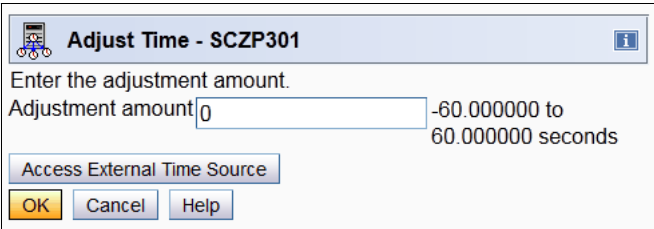

Figure 6-110 Adjust Time window - 0 entered to remove previous manual time adjustment
3. On the Adjust Time window, enter a new adjustment amount value of zero (Figure 6-110).